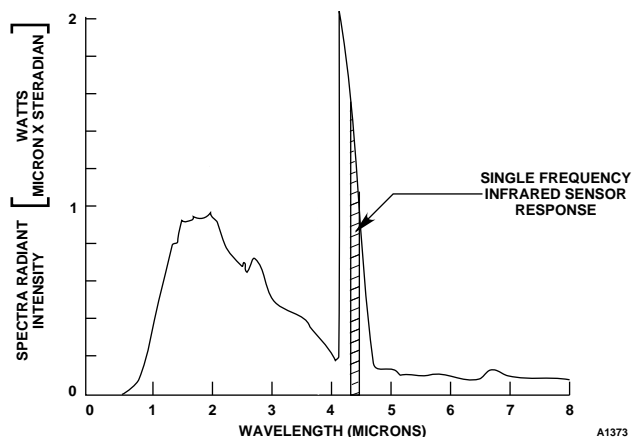

Figure 4—Radiation Spectra from a Hydrocarbon Fuel Fire
1. Hydrocarbon fires emit intense IR radiation in this band. See Figure 4.